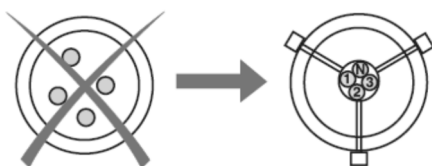

Fig. 4
3. Ensure the cable is central in the toroid (see Fig. 4).